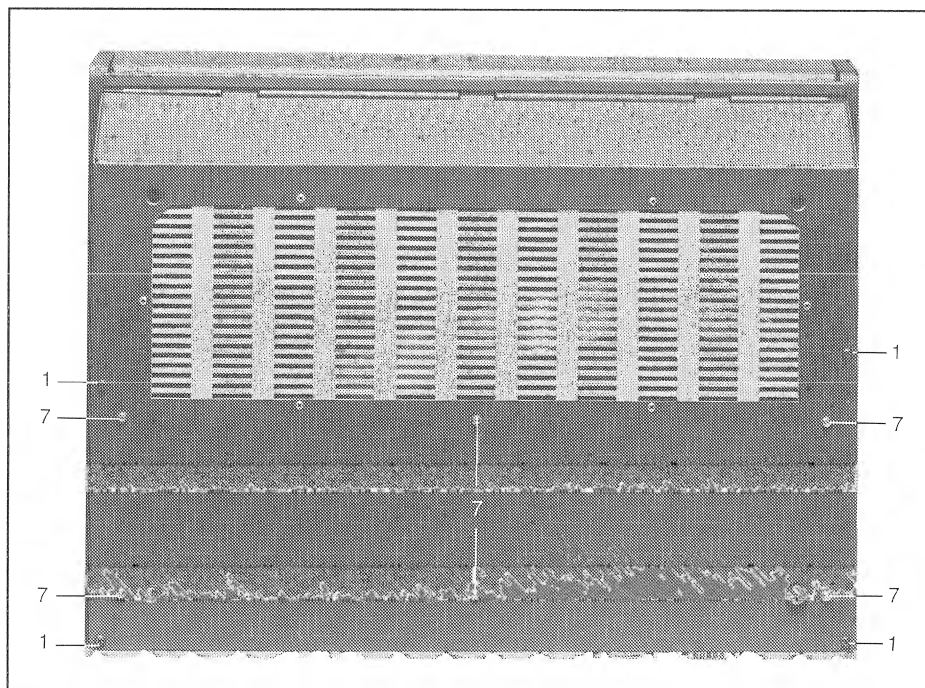

Fig. 1
- Unfasten the four fixing screws [1], Fig. 1.
- Unfasten 6 screws [7], Fig. 1.